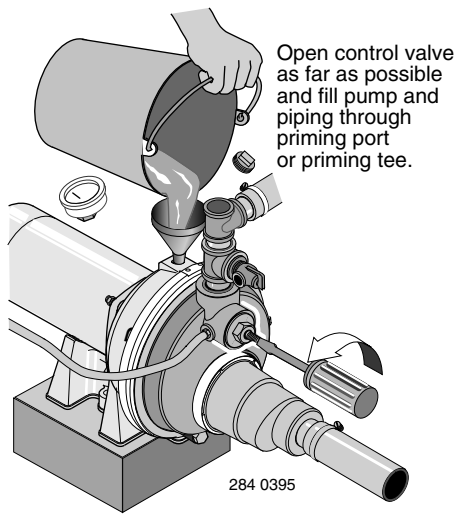

Figure 18: Open Control Valve
- Step 1. Open the control valve as far as possible (see Figure 18). Then remove the priming plug from the pump and fill the pump, fill all piping between the pump and the well, and make sure that all piping in the well is full. If you have also installed a priming tee in the suction piping, remove the plug from the tee and fill the suction piping.